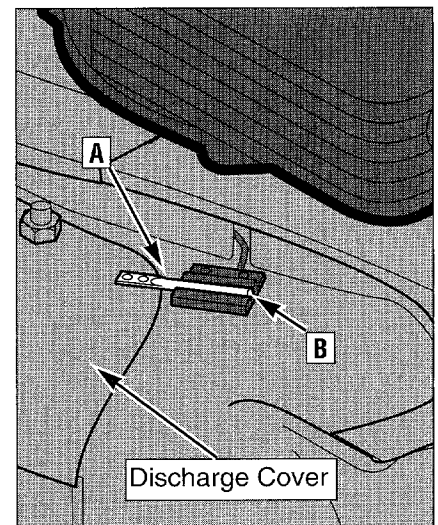

Figure 4-3: Safety Interlock System with cover installed.
Your mower is equipped with a Safety Interlock System. See Figure 4-3 which shows the cover and safety interlock. This system prevents the engine from starting unless the discharge cover or optional grass catcher is properly installed. The rod (A) must be positioned as shown in the slot (B) in order to start the engine.